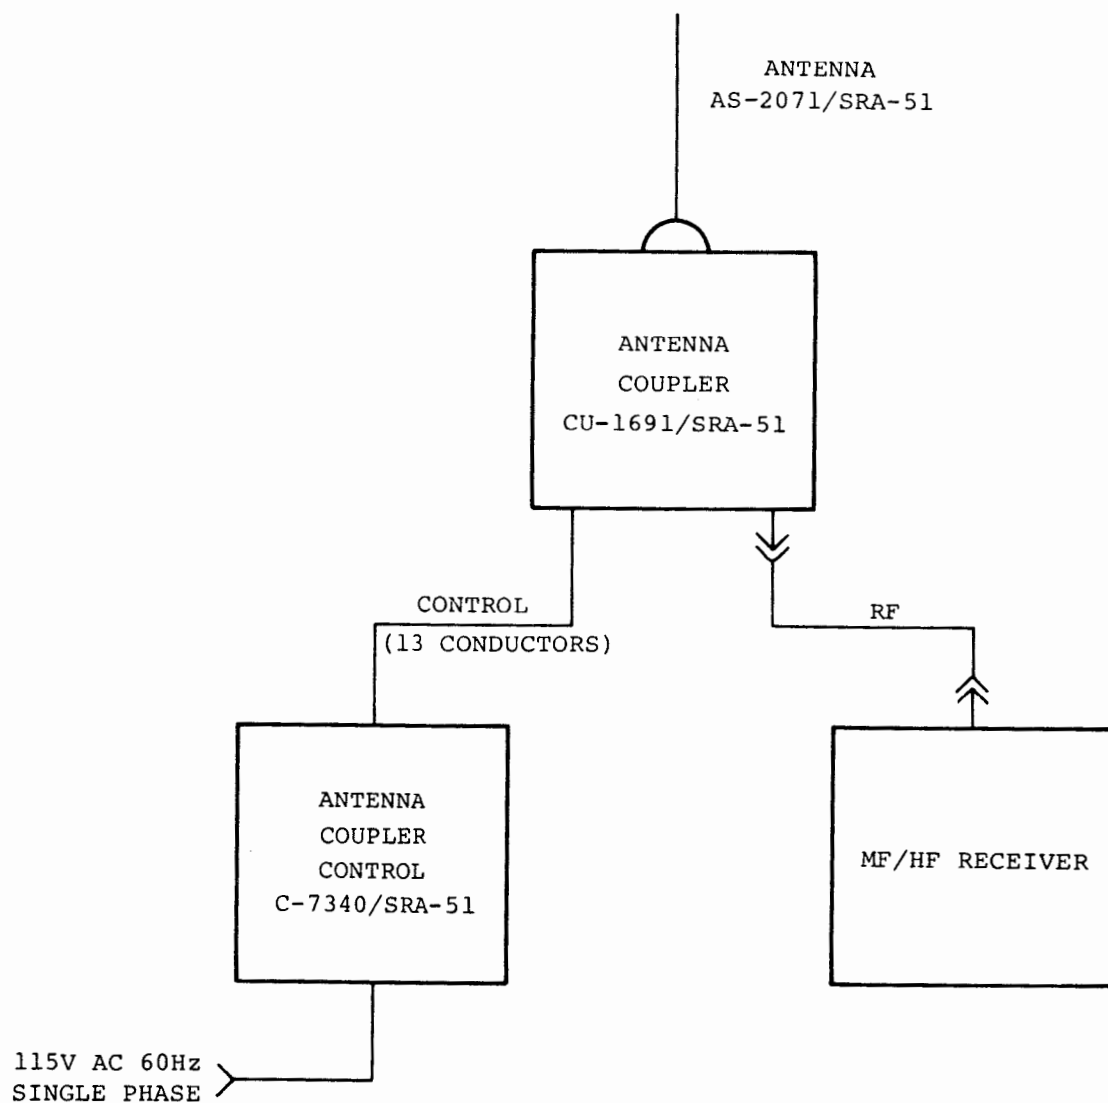

Figure 6-9 Antenna Group AN/SRA-51 Interconnection Diagram
c. INTERCONNECTION DIAGRAM. - See Figure 6-9.